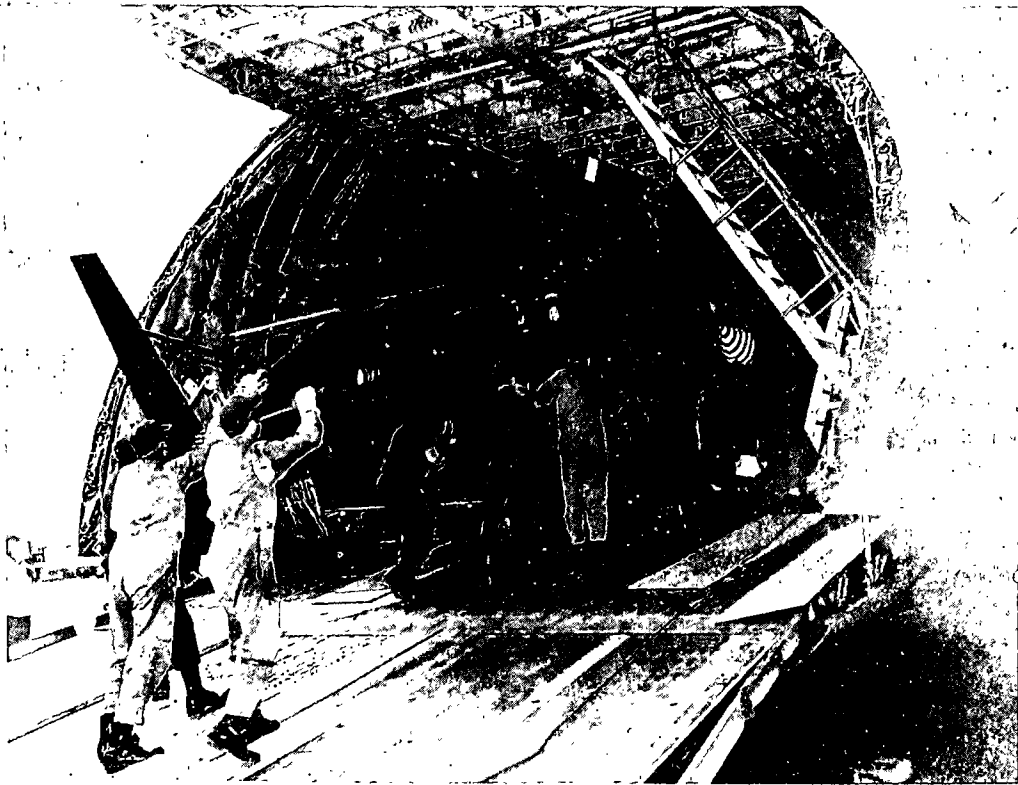

Figure 2-51. Loading the UH-6A helicopter into the airplane over the forward ramp.
(6) Remove the ground handling wheels.
(7) Load the remaining helicopters in numbered sequence.
(8) Position the OH-6A helicopter facing in the appropriate direction in front of the C-5 ramp, in line with the ramp-toe extension.
(9) Station the six man loading team: two men at the empannage; two men at the cargo door openings; one man to control the rotor blades; and the leader who moves about as best to observe the loading and give instructions as shown in figure 2-51.
(10) Manhandle the helicopter up the ramp into the airplane.
(11) Manhandle the helicopter to its tiedown location onto the parking shoring.
(12) Raise the ground handling wheels.
(13) Position the trucks facing in the appropriate direction at the ramp toes and back up the ramp to its tiedown location.